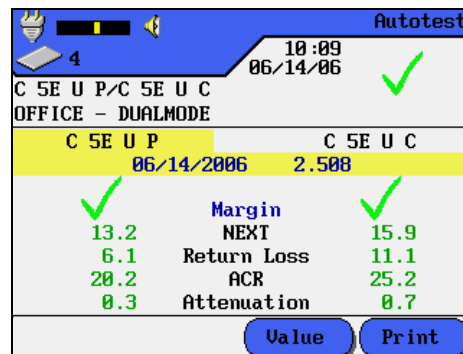

Figure 2-20: DUALmode Autotest
3. Select the two (2) cable type combination to be tested in DUALmode and press **ENTER**.
4. Press **AUTOTEST**. The PASS/FAIL results will be displayed. (Figure 2-20) Worst-case margins and values for NEXT, RL, ACR and Attenuation are shown for each of the DUALmode tests.